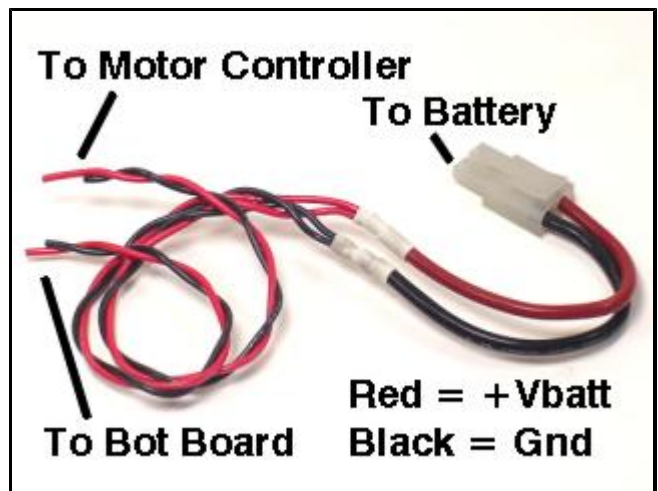

Figure 1.
Step 1. Figure 1 illustrates providing power for both the Scorpion and the Bot Board using a single 7.2vdc battery. Solder the battery connector to some short sections of 20awg hookup wire (not included). The battery connector acts as a power switch.